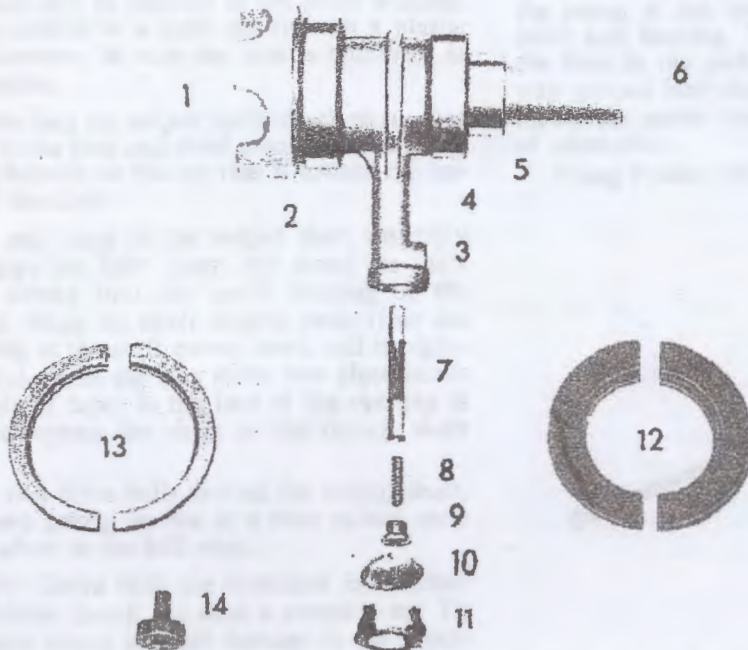

FIG. 127
Remove the hub key (6, Fig. 127) and the shaft-